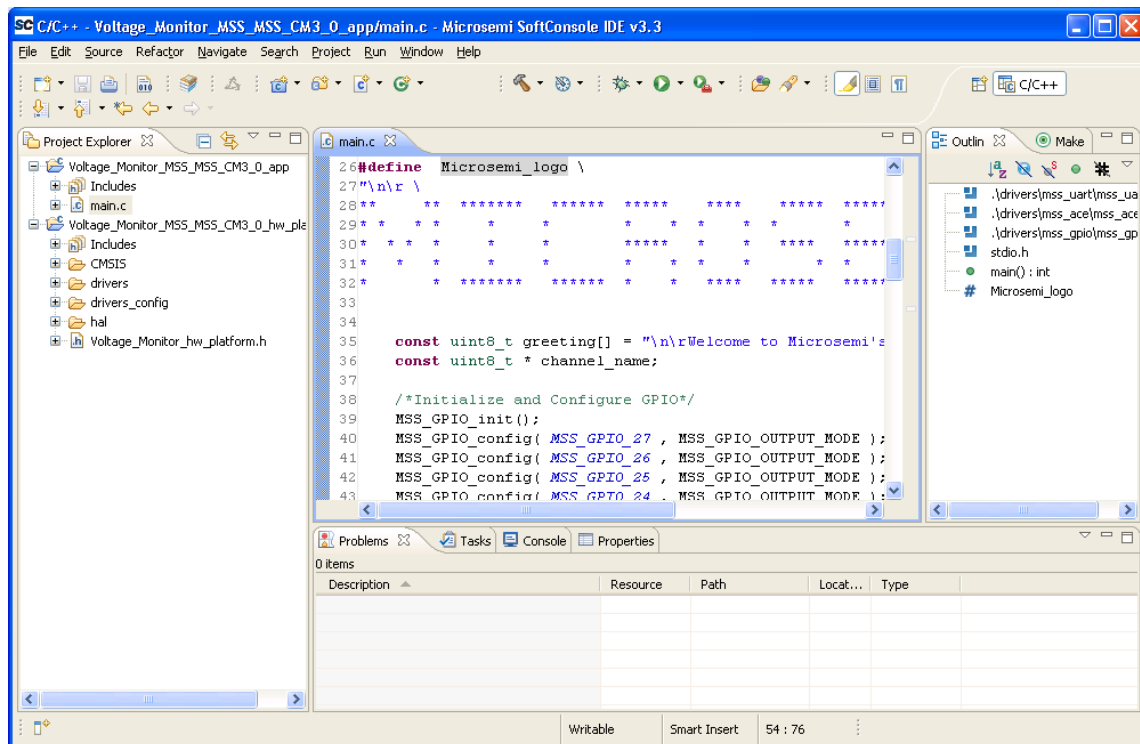

Figure 23 · SoftConsole workspace
4. The SoftConsole window looks similar to Figure 23 · on page 20.